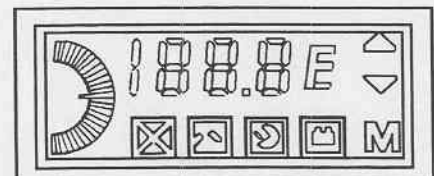

Figure 2-1. Display test.
- a. Observe the 6-second display test, ensuring that no display segments are missing (fig 2-1).